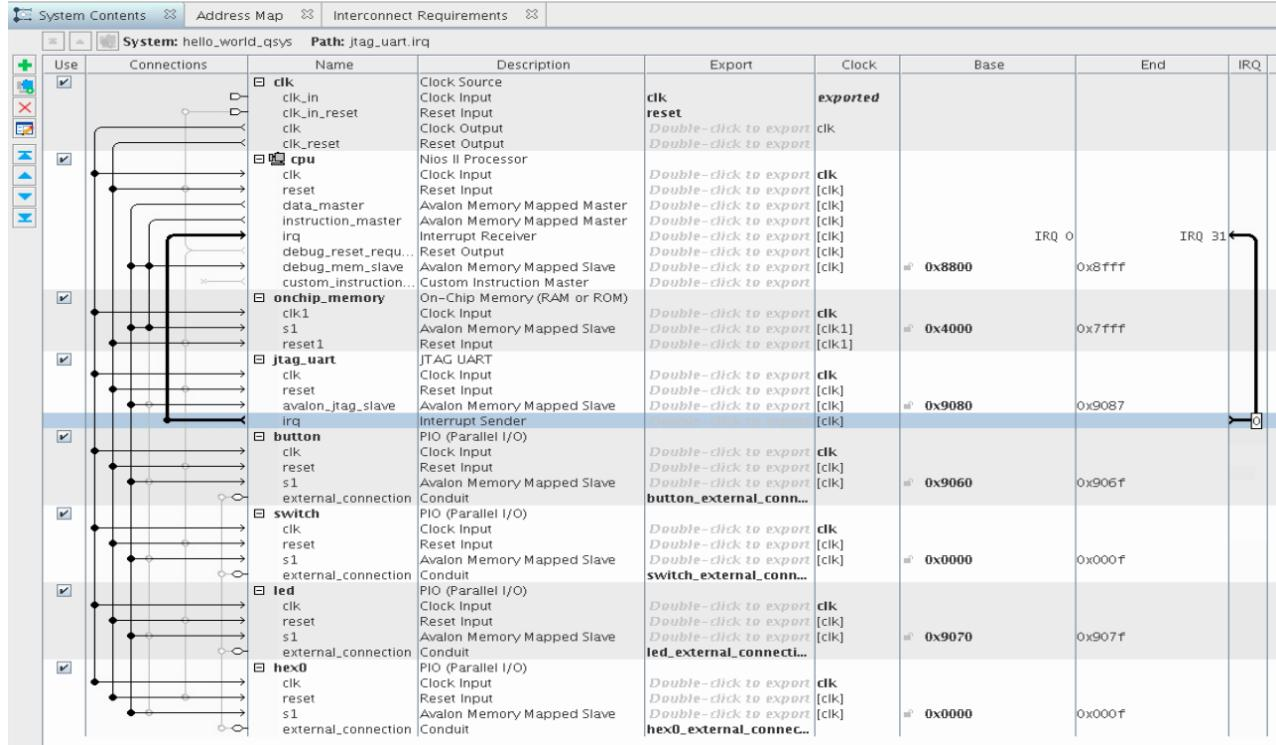

Figure 21: System Contents after Interrupt Connections
9. The next connections to make are the processor interrupt request (**IRQ**) signals. Make this connection as shown in Figure 21 by clicking on the empty bubble.